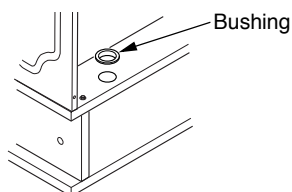

Figure 15 - Installing Bushing
4. Install one plastic bushing provided in blower kit into the 1 1/2" hole in the left rear of fire-box floor. Access hole through the rectangular opening in the rear panel (see Figure 15).